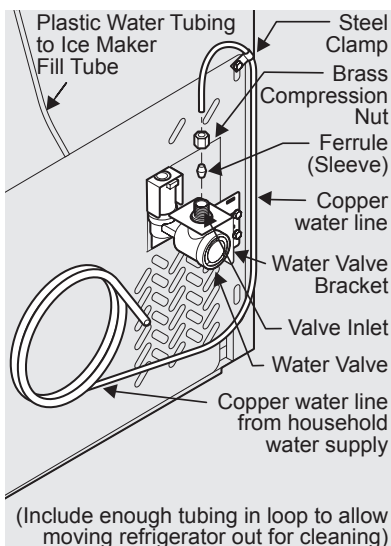

Figure 1
4. If you use copper tubing - Slide brass compression nut, then ferrule (sleeve) onto water supply line. Push water supply line into water valve inlet as far as it will go ($\frac{1}{4}$ inch / 6.4 mm). Slide ferrule (sleeve) into valve inlet and finger tighten compression nut onto valve. Tighten another half turn with a wrench; DO NOT over tighten. See Figure 1.